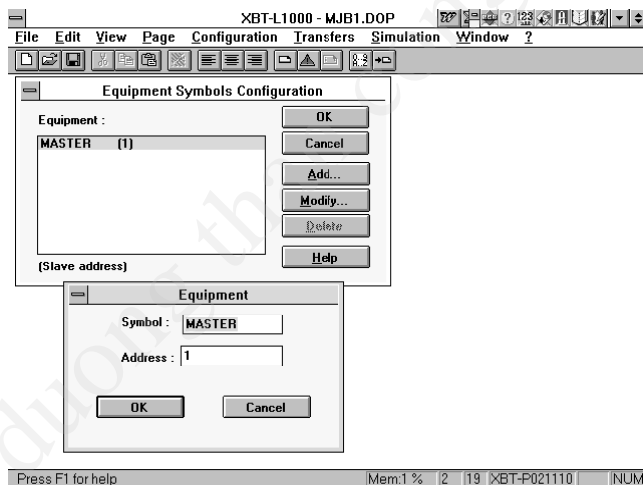

Figure 25: Changing a PLC Address in the Equipment Symbols Windows
3. From the *Equipment Symbols Configuration* window that appears, click on the **Modify** button. The *Equipment* window appears (see Figure 25).